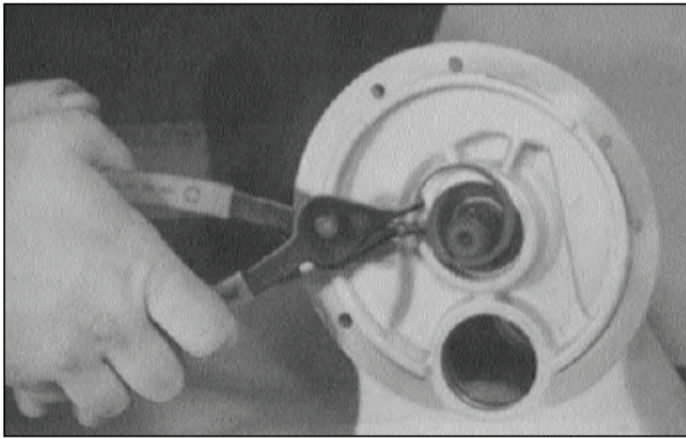

Figure 7-21. Input Shaft Bore Snap Ring
17. Remove snap ring (16) from input shaft bore (12). See Figure 7-21.